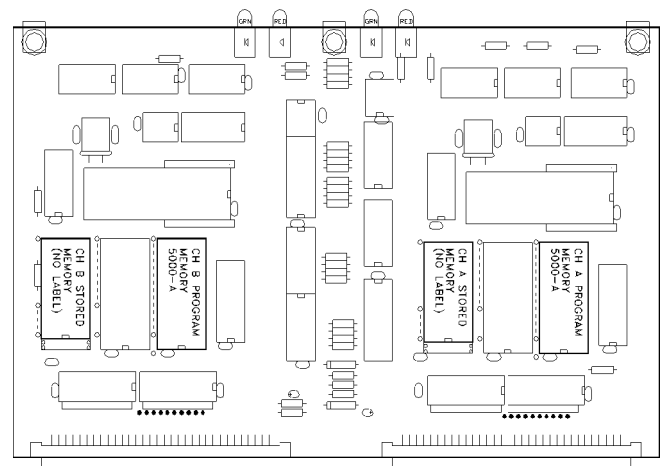

**Figure A.7:** Communications Circuit Board
- ◆ Using Figure A.7, locate and remove chip 800-3.
- ◆ Insert the new 800-3 “Base” chip in the location labeled “800-3” in figure A.7.
Note that communications cards can have up to two additional software chips as options (a feed support chip for example). If updating an existing option chip, replace that chip **only** with a chip that has the same labeling (except for the version)! If a chip is being added, it may go into either available socket. *Note that the “Base” chip must always go in the socket labeled “800-3” in figure A.7!*